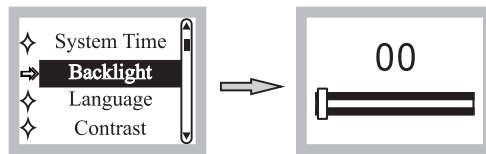

Fig. 19
- (4) Changing Backlight Brightness Time: 00 is constant. The parameter can be set by an interval of 10 seconds between 00 and 240, Fig. 19.